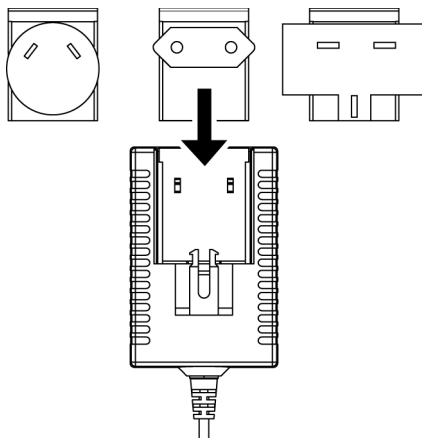

Fig. 5 PS4 Universal AC/DC Power Supply
1. Squeeze both sides of the PS4 latch lock (see Fig. 5).